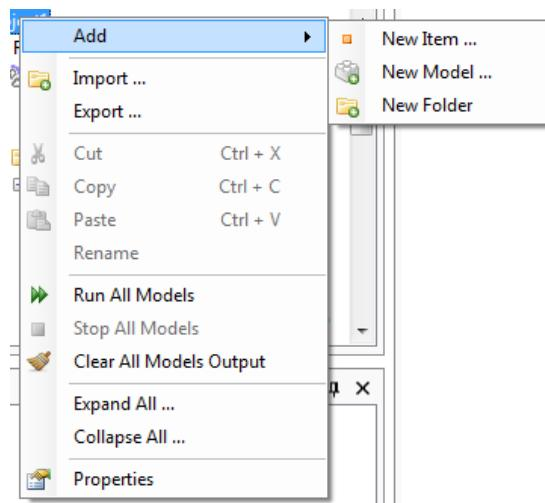

Figure 3.19: The context menu on the project level within the project explorer.
The context menu of the project level within the project explorer is shown in Figure 3.19. It contains the following choices:
- ◊ Folder items have the same context menu as the project level context menu depicted in Figure 3.19.